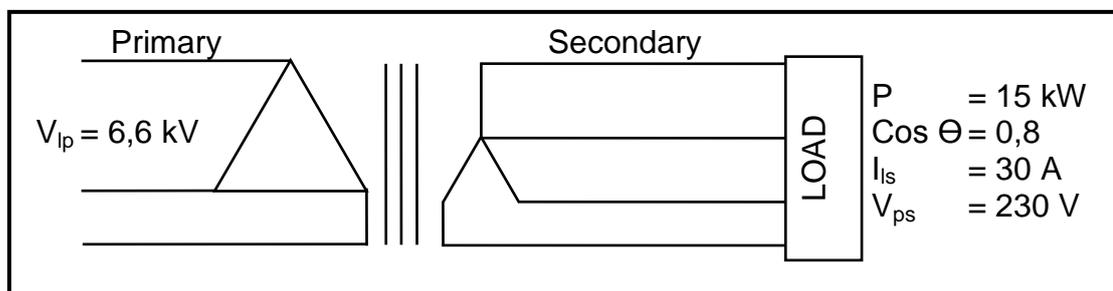

FIGURE 3.1: THREE-PHASE TRANSFORMER
- 3.6 Refer to FIGURE 3.1 and answer the questions that follow.